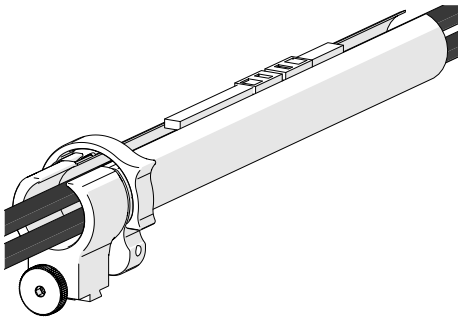

Fig. 56 - Zip opposite end
3. Once the cable is placed the entire length of the tube, bring the zipper from the opposite end to meet at any point in the middle (Fig. 56).